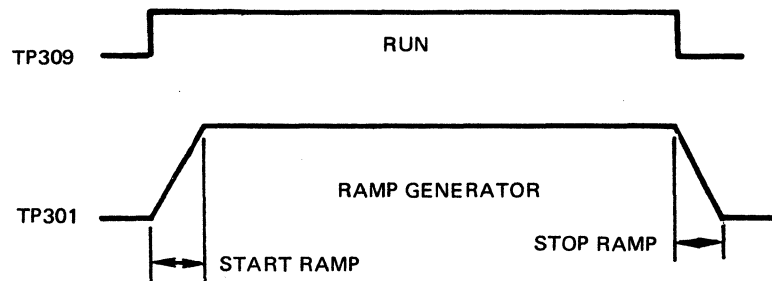

Figure 5-7. Ramp Adjustment Traces
- d. Adjust potentiometer R333 to obtain applicable ramp time specified in Table 5-4. (See Figure 5-7.)